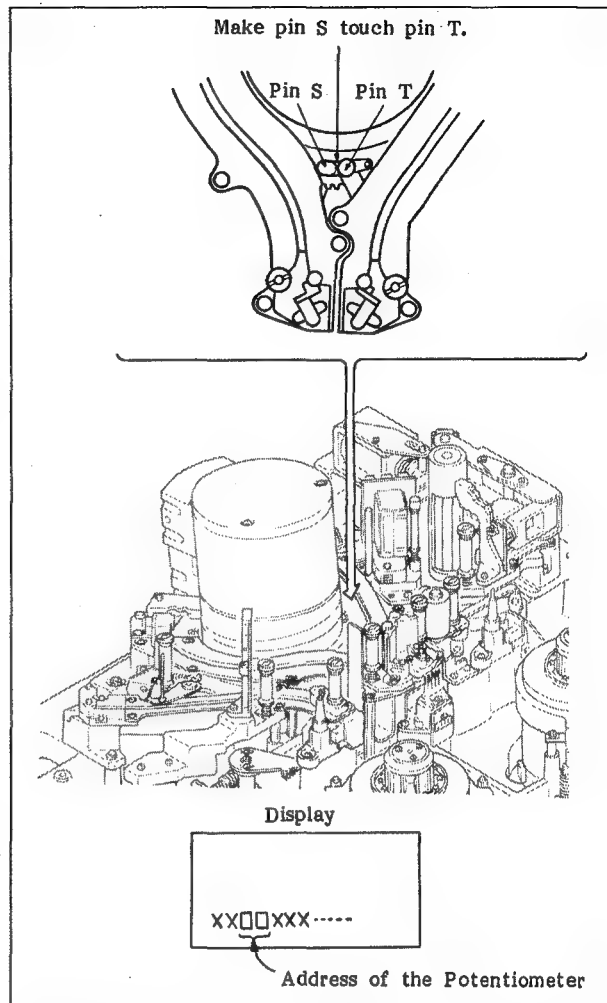

Fig. 6-64. Adjustment of the Address of the Potentiometer in Unthreading Condition
- d. Remember the two-digit number on the display, shown in Figure 6-64.